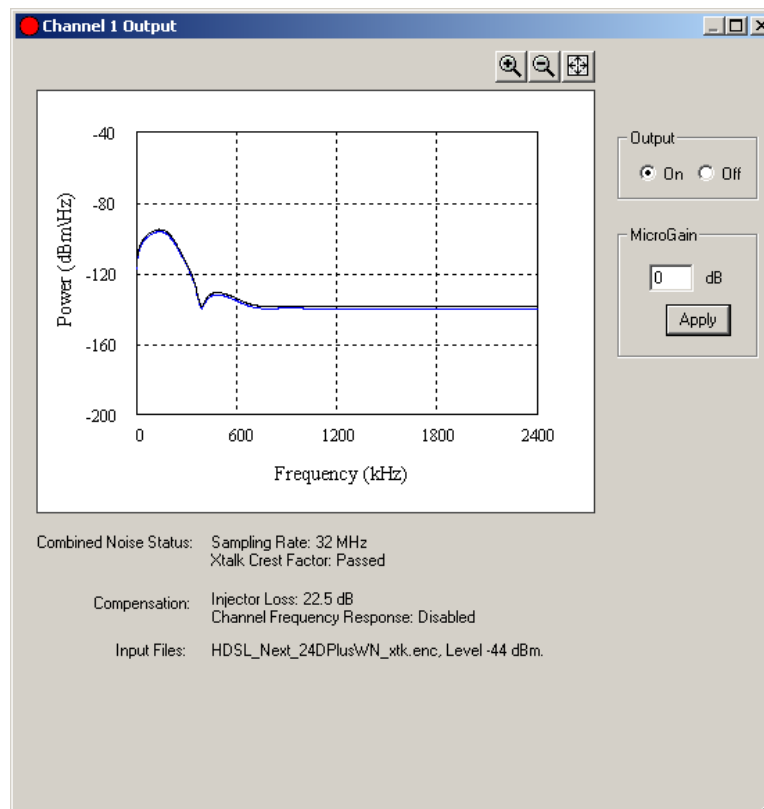

Figure 3-22. Channel Output Window
Clicking a Channel button provides status information for that channel and also displays the current noise type/file settings (*Figure 3-22*). Highlighted channel buttons represent active (ON) channels, and non-highlighted buttons represent inactive (OFF) channels. Selecting any of these channels displays the channel-specific parameters as explained in the following sections.